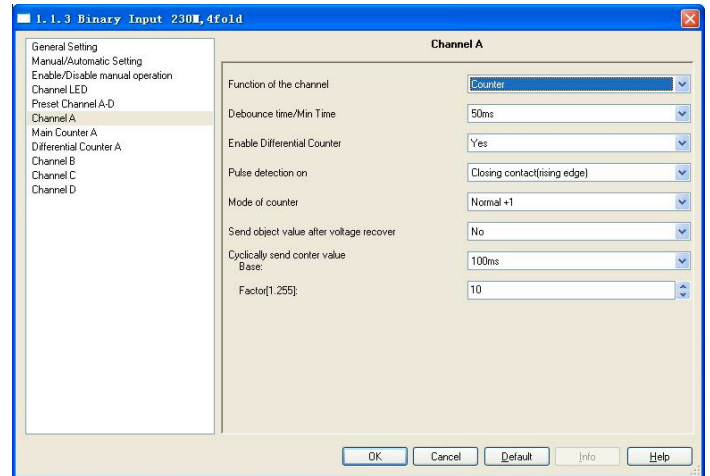

Fig.2.14(1) Parameter window "Counter, X"
Parameter window "Counter, X" can be shown in Fig. 2.14. It is visible when the input is operated with the function "counter".
The parameters of main counter can be set in fig. 2.14(1) and fig. 2.14(2). The parameters of differential counter can be set in fig. 2.14(1) and fig. 2.14(3). The parameters set as follows:
If this parameter is set to "yes", the parameter window fig. 2.14 (3) is displayed.